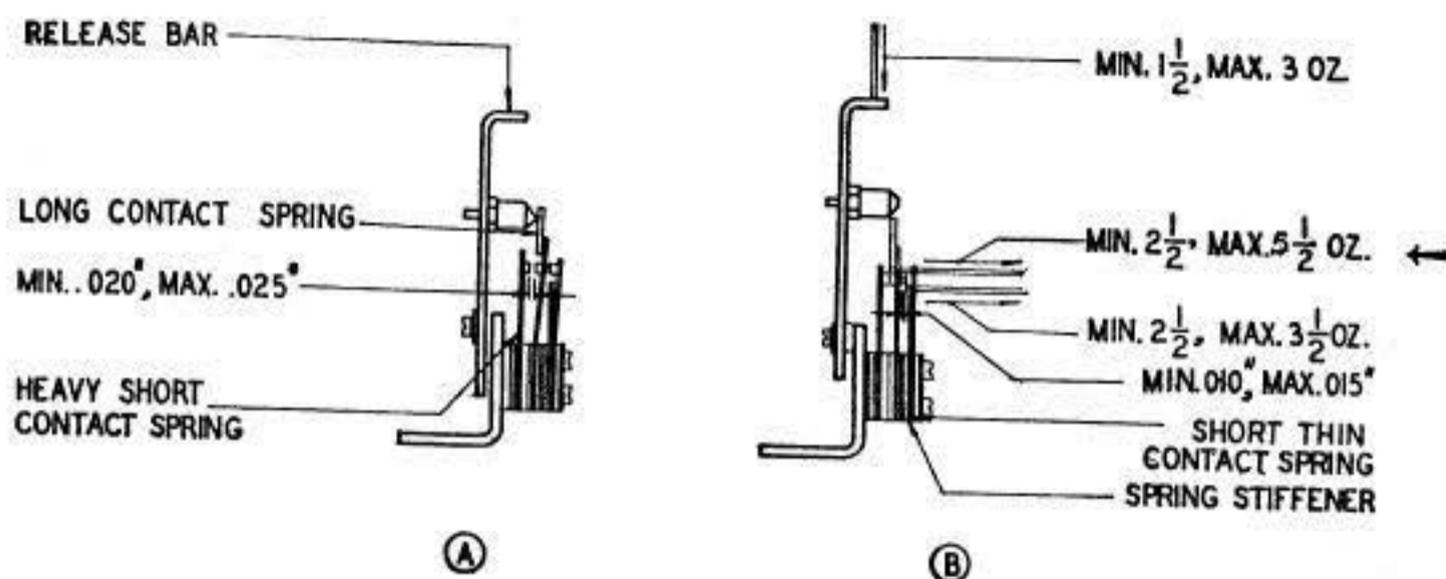

Fig. 6
(a) With the release bar fully depressed, there should be a gap of Min .020", Max .025", as indicated in **Fig. 6(A)**, between the contact on the heavy, short contact spring and the contact of the long contact spring. **Fig. 6(A)**
- (b) With the release bar in the unoperated position (up), it should require a tension of Min 2-1/2 oz, Max 5-1/2 oz, as indicated in Fig. 6(B), to open the contact when the scale is hooked over the long contact spring just above the contact point and pulled horizontally. **Fig. 6(B)**
- (1) To adjust, bend the long contact spring. Recheck (a).
- (c) With the release bar unoperated, there should be a gap of Min .010", Max .015", as indicated in Fig. 6(B), between the contact of the short, thin contact spring and the contact of the long contact spring. **Fig. 6(B)**
- (1) To adjust, bend the short, thin contact-spring stiffener.
- (1) To adjust, bend the heavy, short contact spring.
3.21 **Release-bar spring** should require Min 1-1/2 oz, Max 3 oz to start the bar moving, with the push end of the scale applied to the top of the release bar and pushing vertically downward. **Fig. 6(B)**